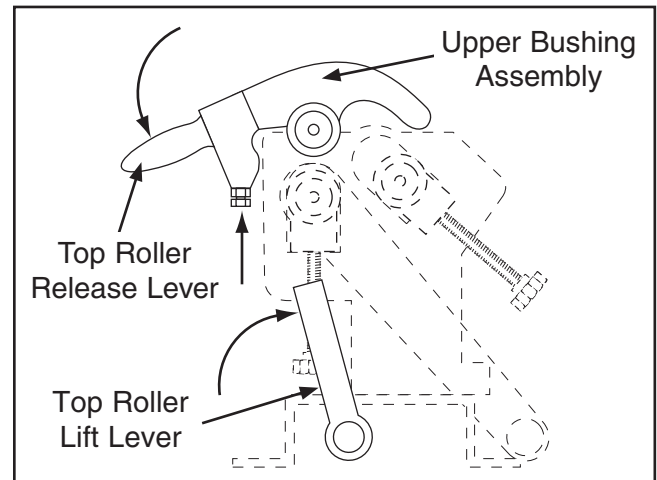

Figure 31. Securing top roller.
4. Return the top roller lift lever to its original position, close the upper bushing assembly, then lower the top roller release lever (**Figure 31**).